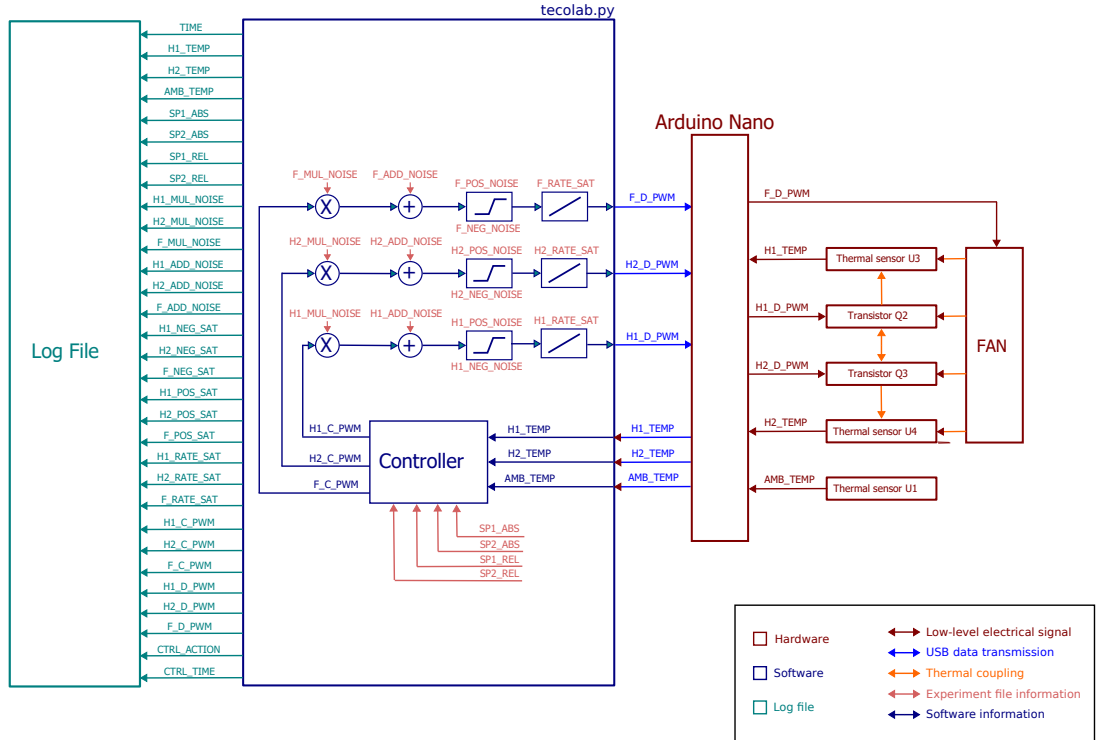

Figure 3.1: Block Diagram of TeCoLab Experiment
TeCoLab operates with three distinct types of files, each playing a different role in the functionality of the system and analysis of the generated data. The relationships among these files and their connection to the hardware are detailed in Figure 3.1.
1. **Experiment File (.csv):** Located in `TeCoLab/Software/Experiments`. This file, provided by the user, defines the experiment setup, which includes details such as temperature setpoints, disturbances, and other parameters necessary for the description of the experiment. In the Figure 3.1, the experiment file is responsible to provide the information in pink. Refer to Section 3.1 for a comprehensive guide on creating experiment files.